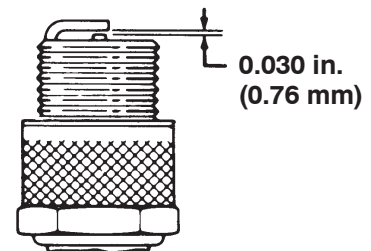

Figure 50
- Set the air gap between the center and side of the electrodes at 0.030 in. (0.76 mm) (Fig. 50) Install the correctly gapped spark plug w/gasket seal, and tighten the plug to 200 in.-lb. (23 N·m). If a torque wrench is not used, tighten the plug firmly.